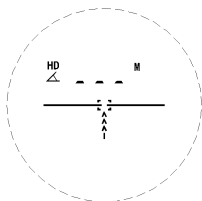
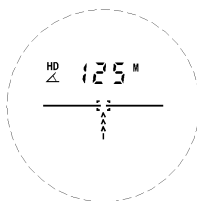
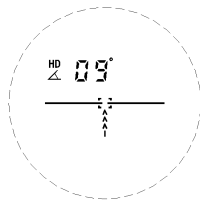

Fig. 7.2
Fig. 7.3
Fig. 7.4
2. Press down the OPEN button. The lens will display the last mode selected when the Laser Range Finder shutdown. Keep pressing the MODE button till you reach the Horizontal Distance Mode (see Fig. 7.2). Aim the Laser Range Finder at your desired object, and press and release the OPEN button (short press). If the object is in measuring range, then the Horizontal Distance to the object will be displayed on the lens (see Fig. 7.3). Shortly after this value will be replaced by the slope angle (see Fig. 7.4). The horizontal distance and angle will keep switching back and forth till the Laser Range Finder shuts down.